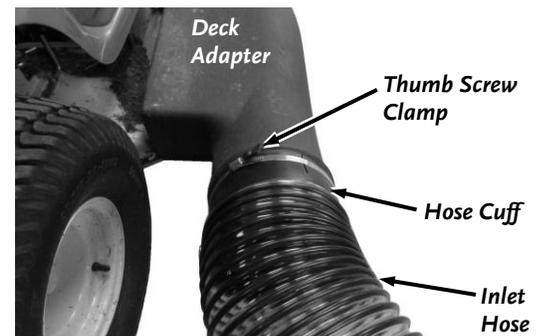

Figure 88
3. Turn the Thumb Screw Clamp to disconnect the Hose from the Deck Adapter (**Figure 88**).